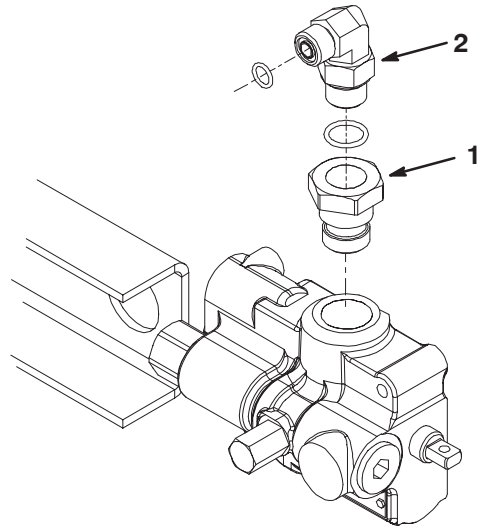

Figure 21
30. Remove the plug from the top of the valve assembly (Fig. 21).
31. Thread the sleeve fitting into the opening in the top of the valve and position as shown in figure 21.
32. Thread a 90 degree fitting into the sleeve fitting on the valve (Fig. 21).